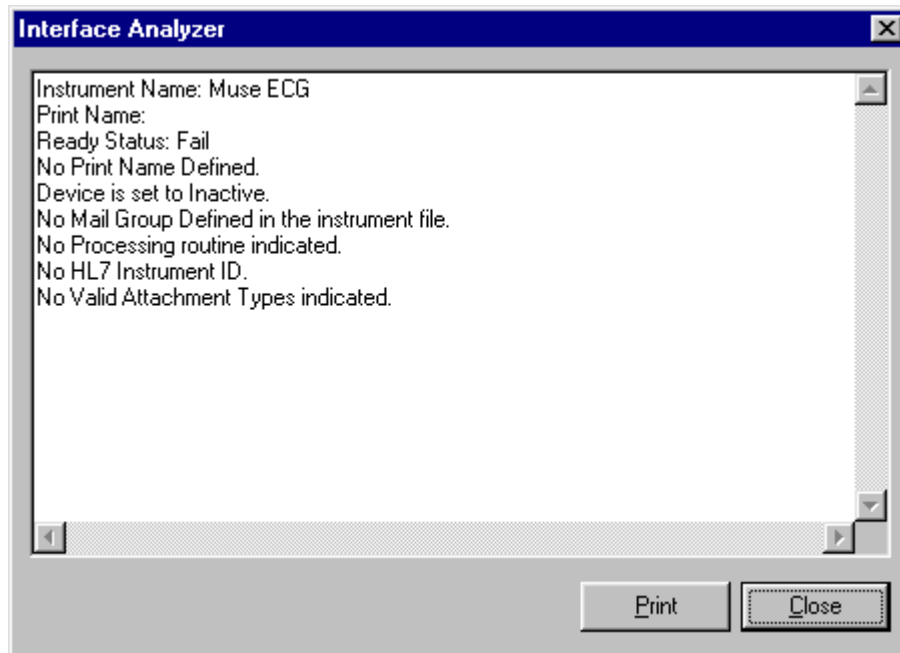

Figure 6-6
2. Select the instrument that you want to analyze. Click **Analyze**. A window similar to Figure 6-6 is displayed. This window indicates the ready status of the instrument and lists other information as well.
After you complete the edits, if you entered the name in upper case, the procedure name that you just entered is displayed in title case, Pacemaker Followup, (the first letter of every word is capitalized), in the left side of the CP Manager window. See Figure 6-6.